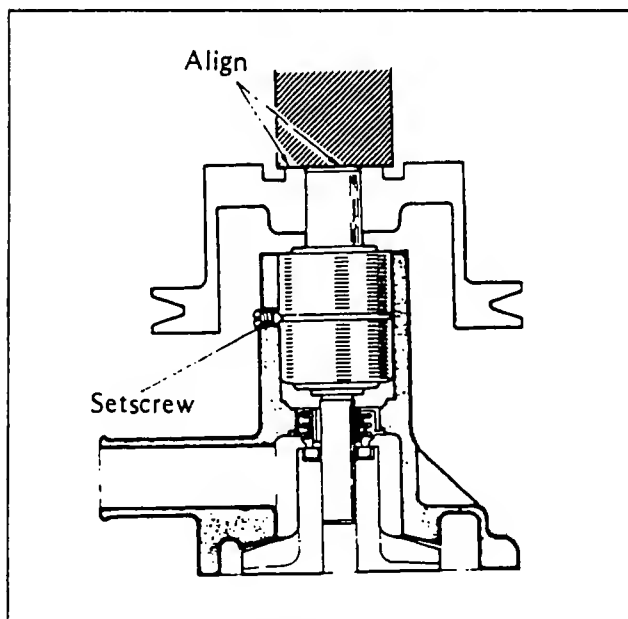

Figure 6. Fan Pulley & Setscrew Installation
6. Use a SETSCREW to retain the bearing (Figure 6). Then, press the fan pulley into place until the bearing shaft end is aligned with the end face of the fan holder.